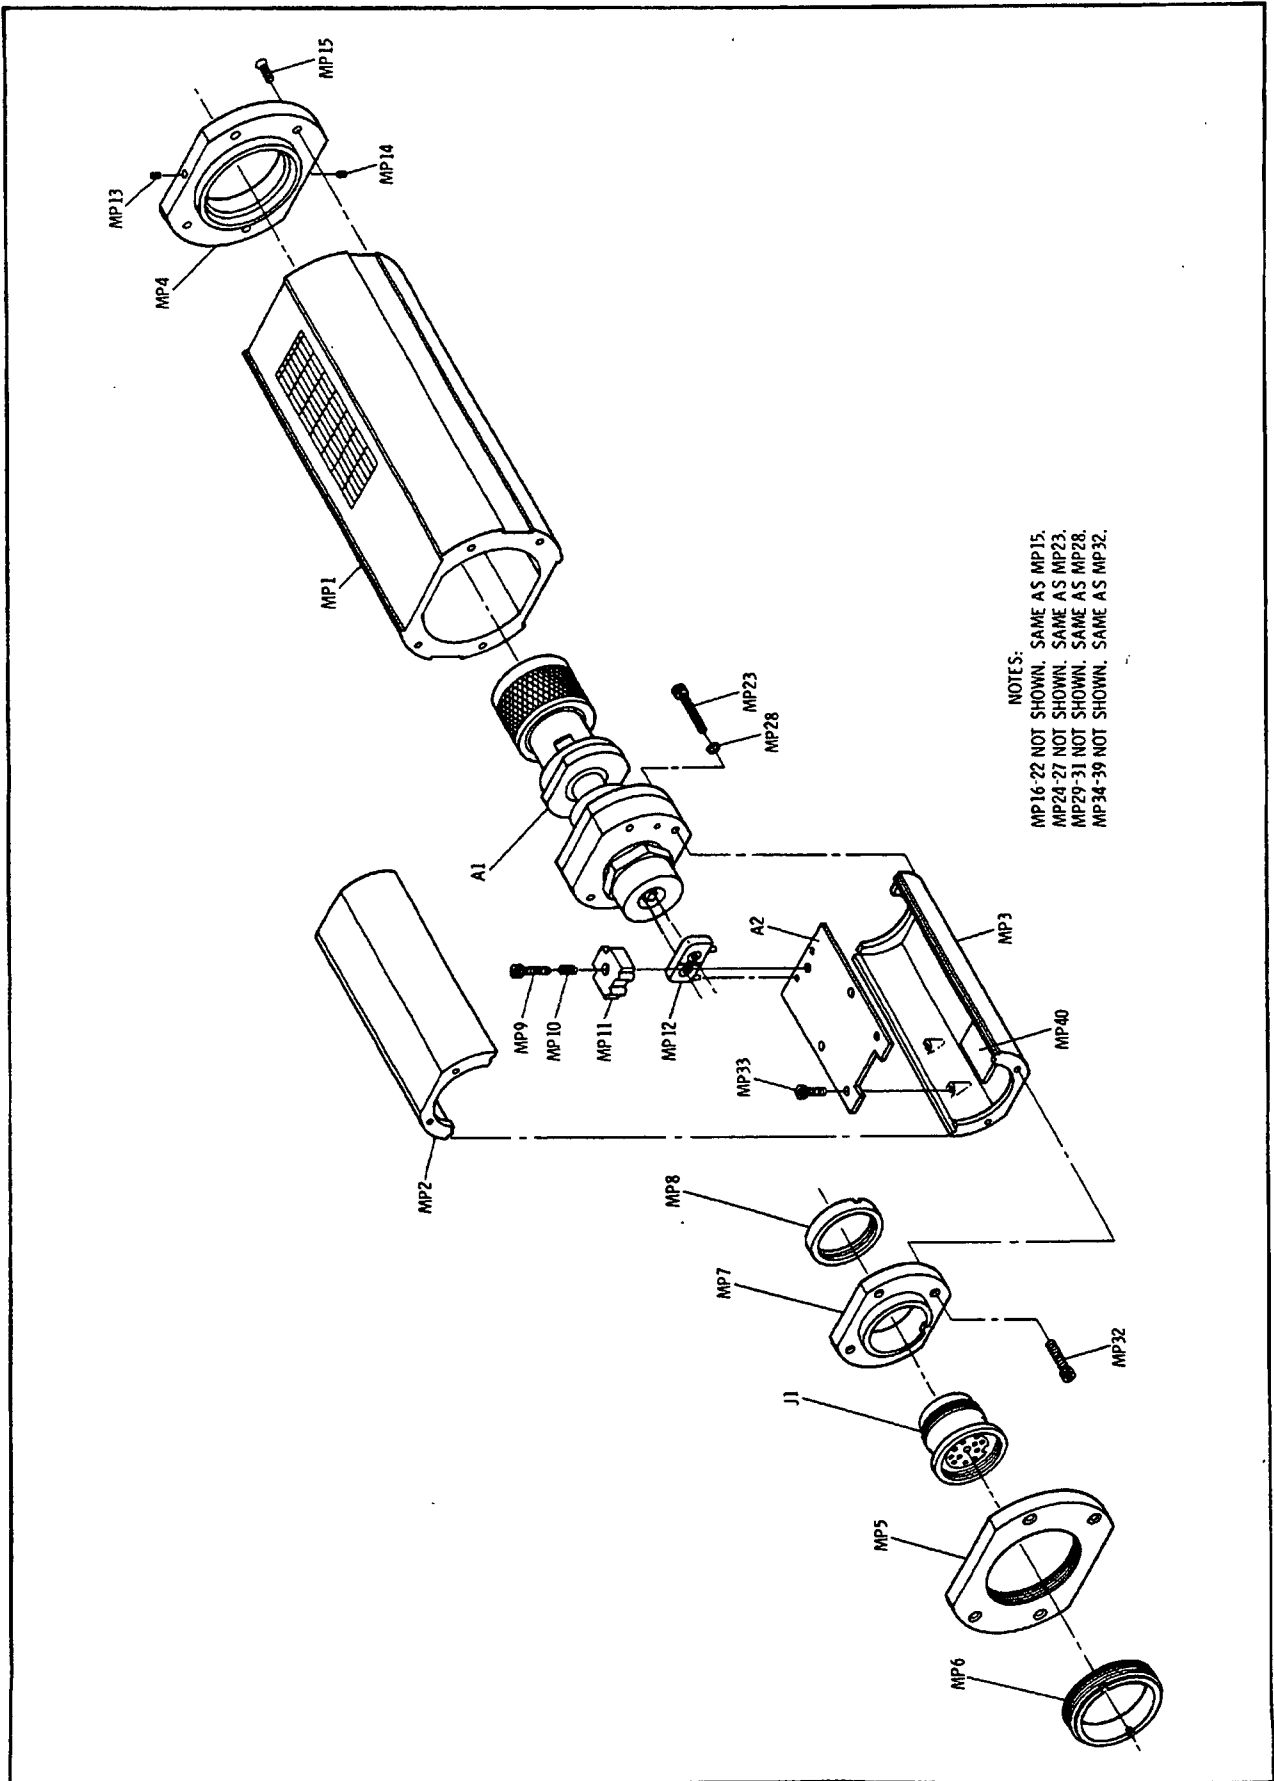

Figure 3. Illustrated Parts Breakdown
52. Table 5 is a list of replaceable parts. Figure 3 illustrates the major parts. To order a part, quote the Hewlett-Packard part number, specify the quantity required, and address the order to the nearest Hewlett-Packard office. To order a part not listed in Table 5, give the instrument model number, instrument serial number, the description and function of the part, and the quantity of parts required.